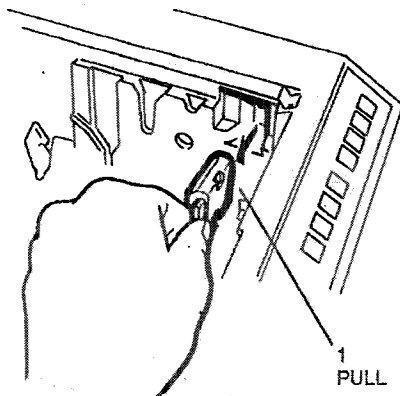

Figure 1. Print Counter removal
2. (Figure 1) Remove the print counter.